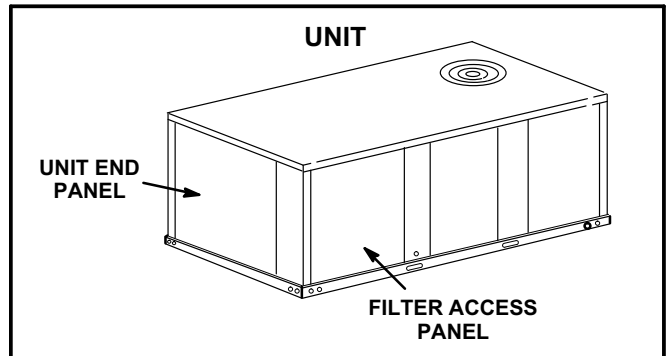

FIGURE 1
- 2- Open unit end panel. See figure 1.
- 1- Disconnect all power to unit and open filter access panel. See figure 1.